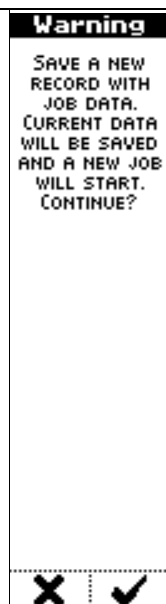

Fig. 6
- the "Floppy-disk" icon saves the current recording on the Icon memory. A confirmation request is issued as in Fig. 6